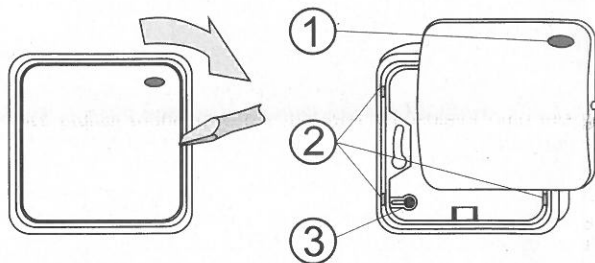

Figure: 1 – LED indicator visor, 2 – Base plastic tabs, 3 – Permanent magnet
1. Open the movable cover (by a screwdriver from the side, see figure 1).
2. Release the bottom plastic base by pressing the 4 tabs in the corners (2).
4. Assemble the PCB part into its plastic frame. If the plastic base is used then it is necessary to move the permanent magnet (3) of the tamper contact from the plastic frame which holds the PCB to the receptacle on the plastic base.
5. Connect the BUS cable to the BUS terminals (7).